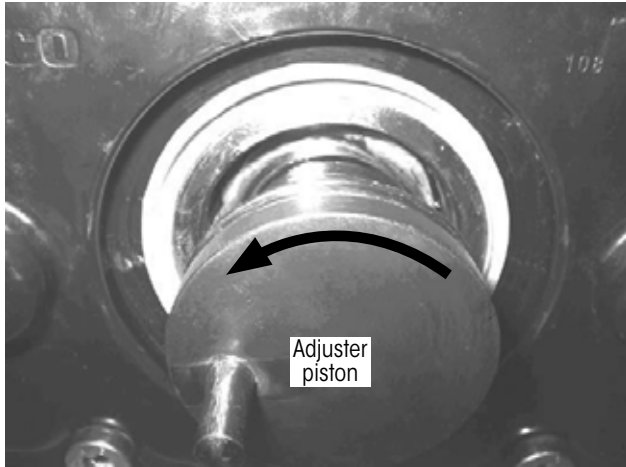

Figure 73: Rotating adjuster
- Manually turn** adjuster piston counterclockwise about 1.18" (30 mm) out of the brake caliper (Figure 73).